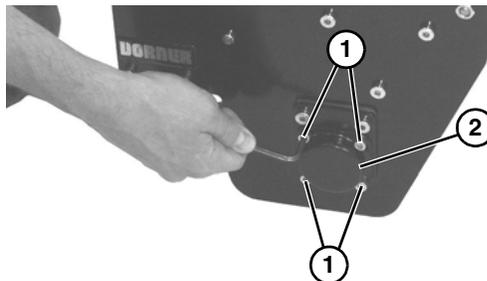

Figure 35
6. On the non-drive side, remove four socket head screws (**Figure 35, item 1**) and cover (**Figure 35, item 2**).